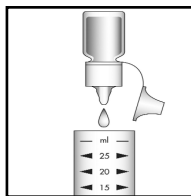

Figure 1
1. Add 5 drops of A-1600 Activator Solution to the empty sample cup (fig 1).